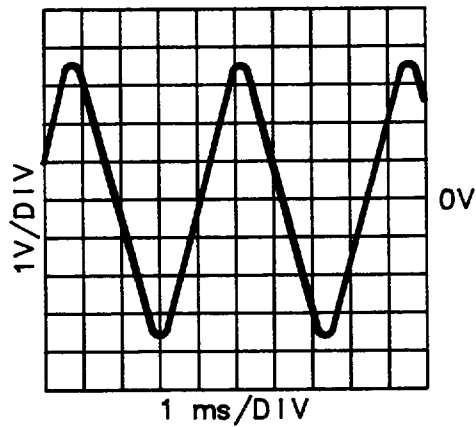

Figure 8-7. A4TP4 Bandpass Amplifier Waveform
11. Connect the oscilloscope to A4TP4. Verify the signal shown in Figure 8-7. The signal level should be 1.8 times the voltage at A4TP17 p-p, $\pm 0.8V$.